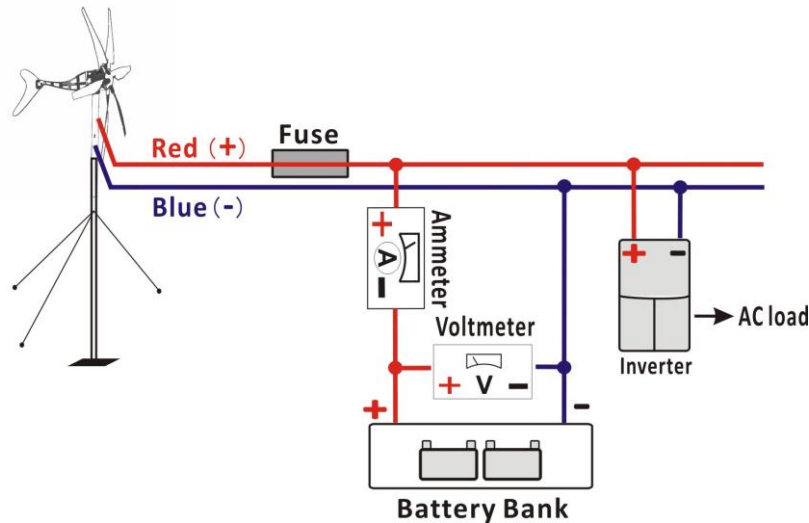

Figure 8: Connect the hybrid system
Please refer to Figure 8 when wiring. Voltmeter (50V rated) and ammeter (20A rated) can be used to test the turbine and the charging. The fuse is 20A.
- b. Disconnect the turbine from the battery and connect a voltmeter to the Red (+) and Blue (-) wires (Refer to Figure 8). Spin the turbine blades by hand and you should immediately see a voltage up to 20V on the voltmeter. Voltage will depend on rotation speed and will not be stable. This is normal. Voltage will only be seen when you first start to spin the blades. Very quickly, the controller will dump the power to the dump load and voltage output on the wires will fall to near zero.